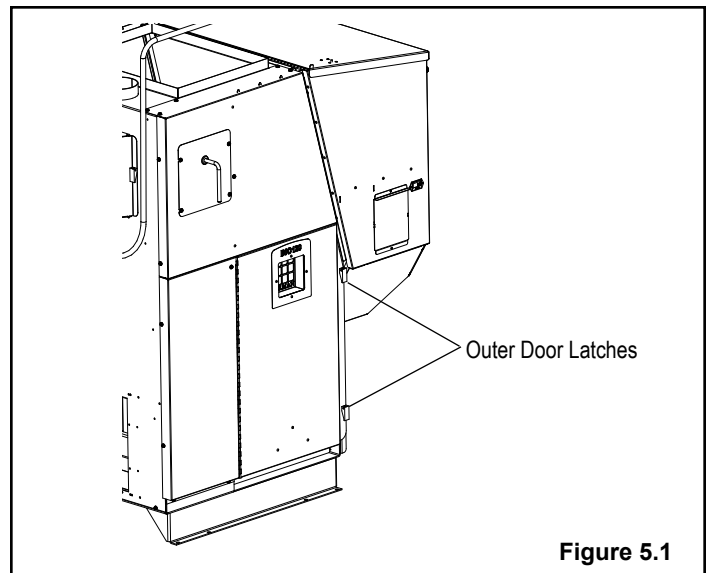
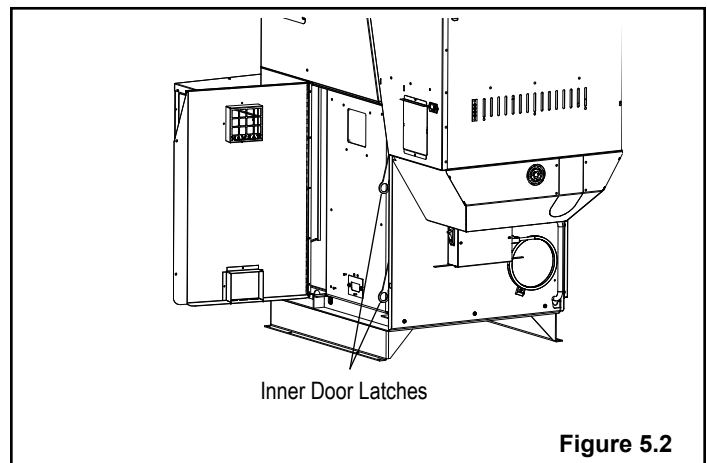

Figure 5.1
Figure 5.2
2. **Open inner and outer ash doors as shown in Figures 5.1 thru 5.3. Located in the maintenance and service sections of this manual.**
Lift the two latches shown in Figure 5.1 and open the outer door as shown in Figure 5.2. If the Distribution Blower is running when the outer door is open, some air will escape around the door opening. This is not a problem, however any dust that is caused in the ash removal process can potentially be blown around.
Lift latches shown in Figure 5.2 and open the inner door as shown in Figure 5.3.